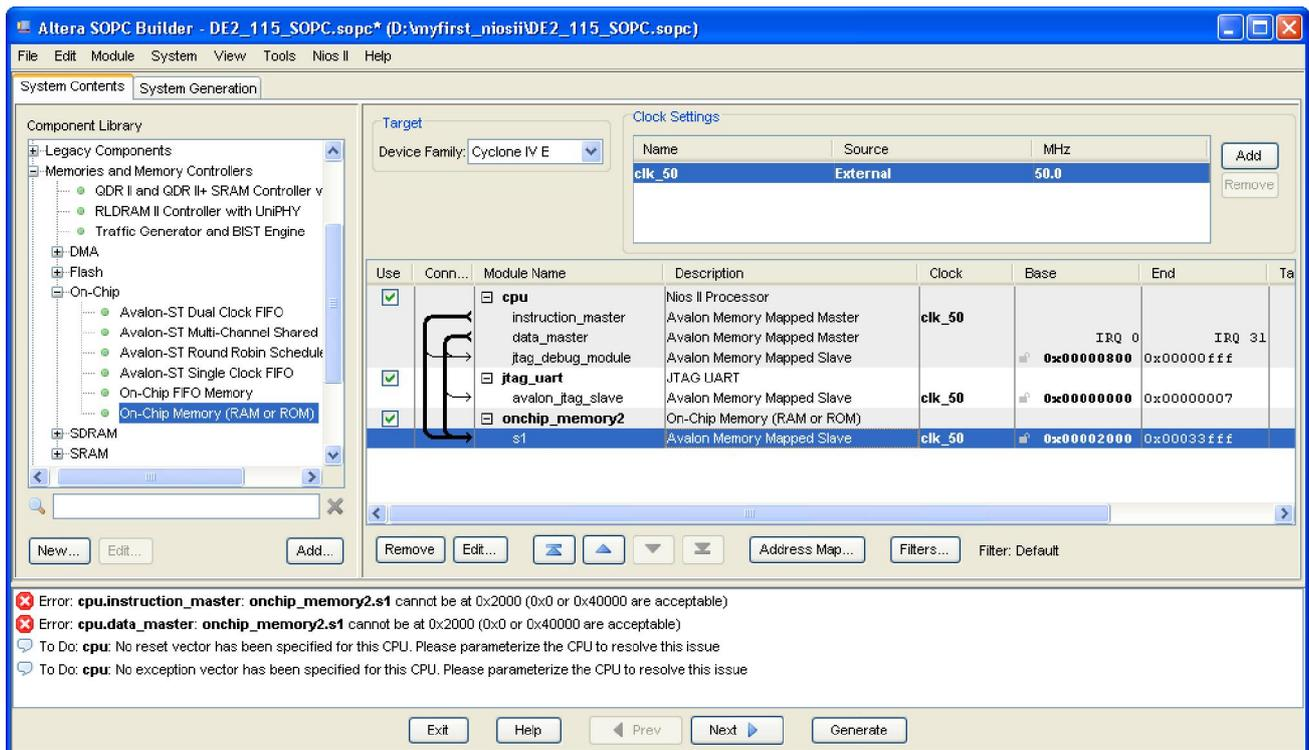

Figure 1-27 Rename On-Chip memory
17. Rename **onchip_memory2_0** to **onchip_memory2** as shown in Figure 1-27.